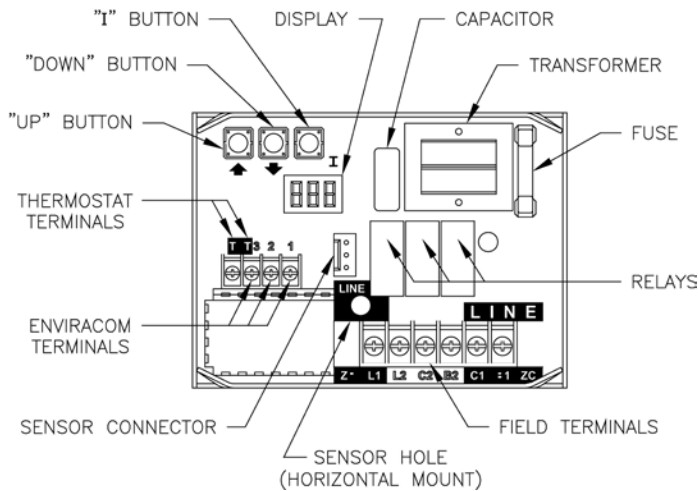

Figure 12: L7248 Circuit Board Layout - Horizontal Mount
- C. On WATER BOILERS WITHOUT TANKLESS HEATERS equipped with **L7248** electronic aquastat controller, set High Limit (HL) at 180°F. This temperature can be varied to suit installation requirements. L7248 controller has the High Limit adjustment range from 180°F to 240°F (82°C to 116°C). High Limit Differential is fixed at 15°F (8°C).
- D. ADJUSTING AQUASTAT CONTROLLER SETTINGS. To discourage unauthorized changing of Aquastat settings, a procedure to enter the **ADJUSTMENT** mode is required. To enter the **ADJUSTMENT** mode, press the **UP**, **DOWN**, and **I** buttons (refer to Figure 12) simultaneously for three seconds. Press the **I** button until the feature requiring adjustment is displayed: